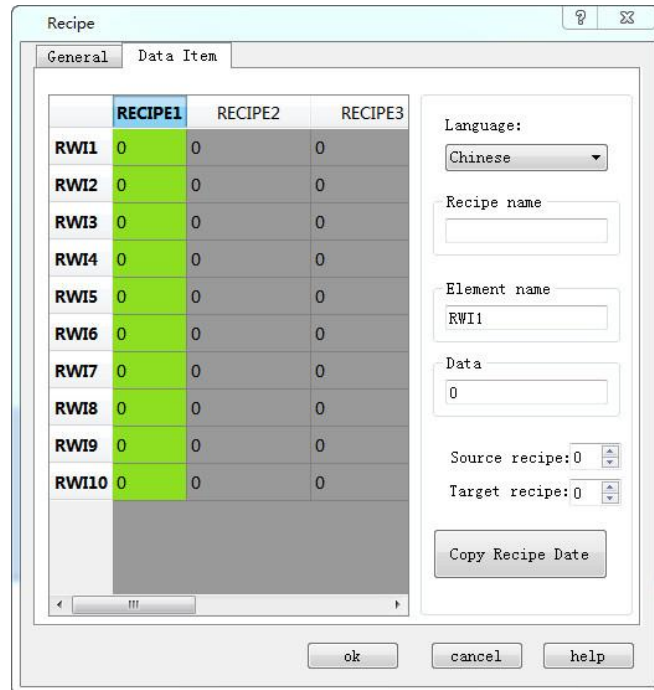

Figure 7-34 Continuous Recipe Data Item Page
1. Create a recipe configuration as described above. The effect is shown in Figure 7-34: